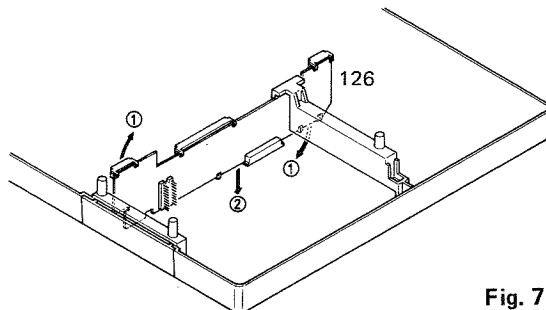

Fig. 7
- The connector PCB (126) can be detached only after all the above-mentioned printed circuit boards have been removed. Turn the connector PCB in the direction indicated by the arrows ① and then pull it out in the direction indicated by the arrow ②. (cf. Fig. 7)